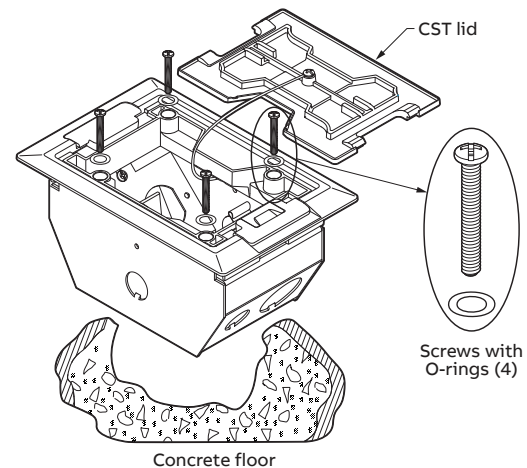

Figure 3
3. Lift CST lid and lay to the side. Insert screws and O-rings through cover into threaded holes in metal floor box. Turn screws until heads and O-rings make contact with the Cover. To secure, tighten screws 1½ turns (see Figure 3).